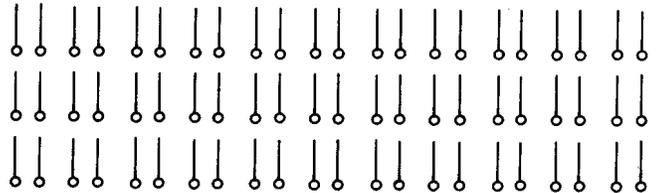

Fig. 14—298 Jack
**2.14 298:** This multicontact jack (Fig. 14) is used with 214 or 216 plugs. The 298 jack is used on